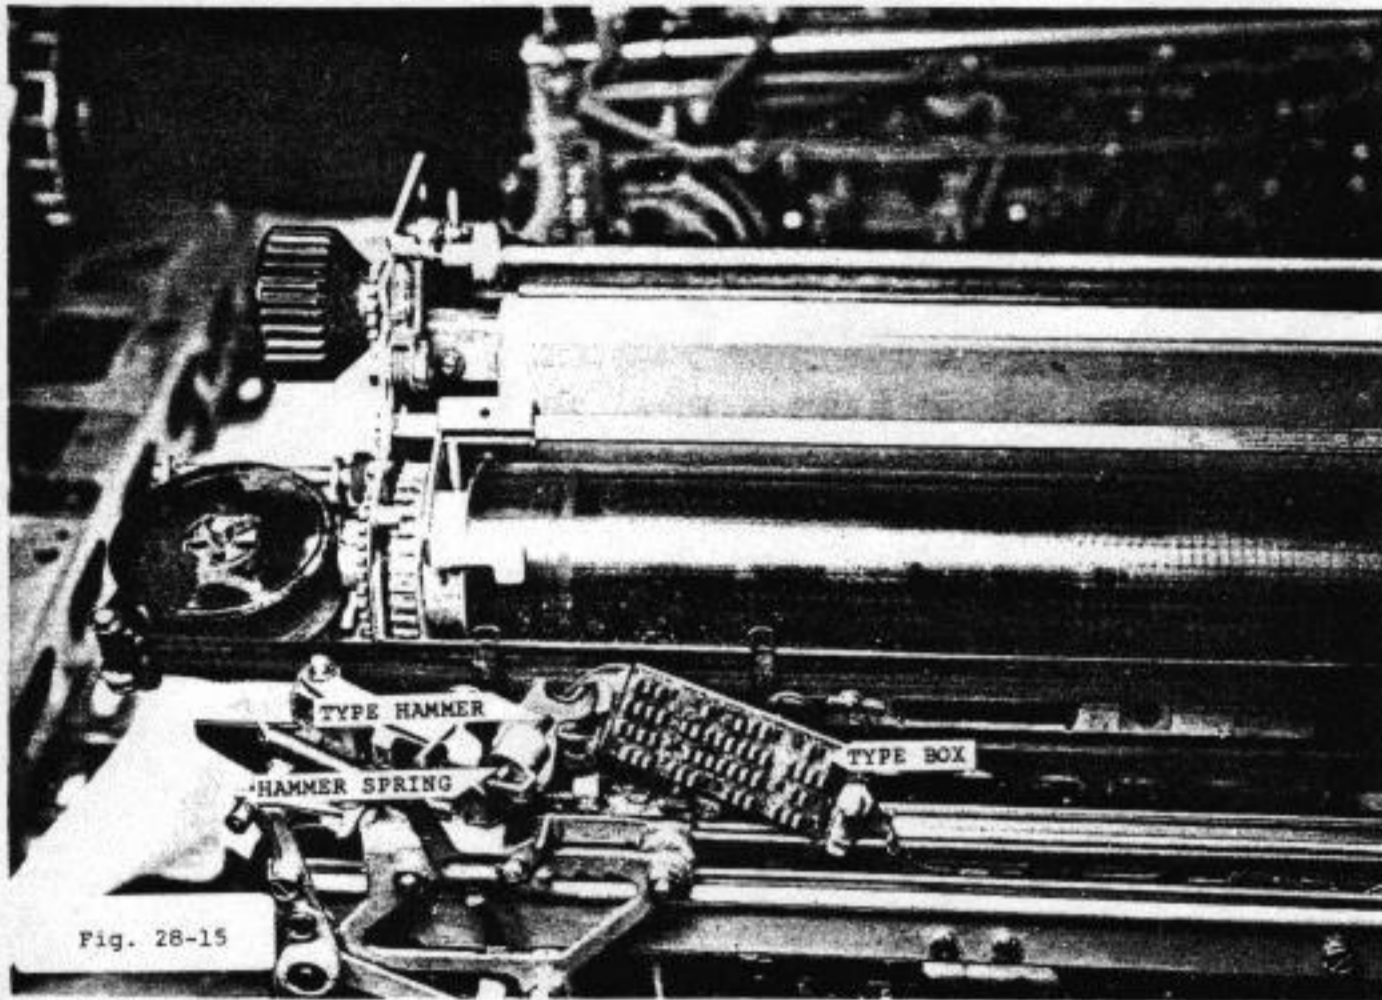

Fig. 28-15
- a) Type box may have come off if it was not latched. (Fig. 28-15)
- b) Check hammer spring and type hammer. (Fig. 28-15)